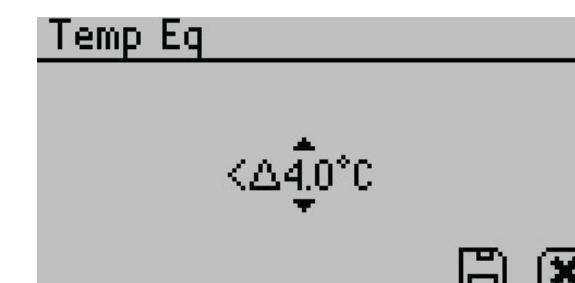

Figure 31 Temp Eq screen
- **Temp Eq.** Select to set the acceptable temperature difference between the sample block and the sample before starting a water activity measurement (Figure 31). The range is 0.1 to 4.0 °C. A setting of 4.0 °C begins the measurement when the sample is <4.0 °C above or below the block temperature. A setting of 0.1 °C begins the measurement when the sample is <0.1 °C above or below the block temperature.